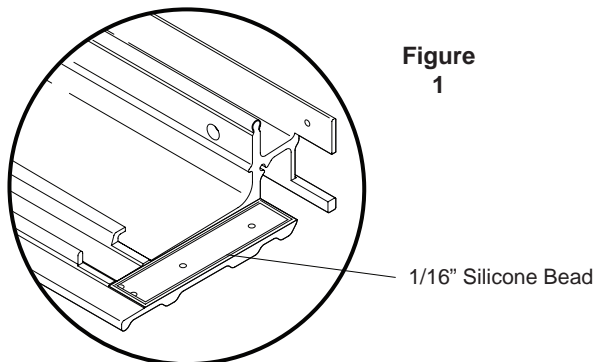

Figure 1
1. Apply 1/16" silicon bead onto sill dado at both ends (Fig.1).